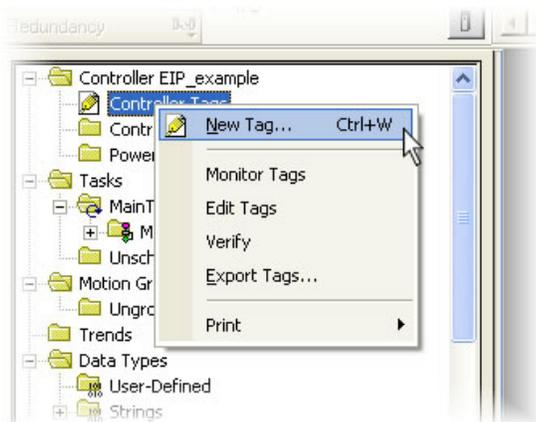

Figure 1: New Tag Menu
1. In RSLogix 5000, create a new tag by right-clicking on the "Controller Tags" menu in the project tree and selecting "New Tag..." (refer to Figure 1).